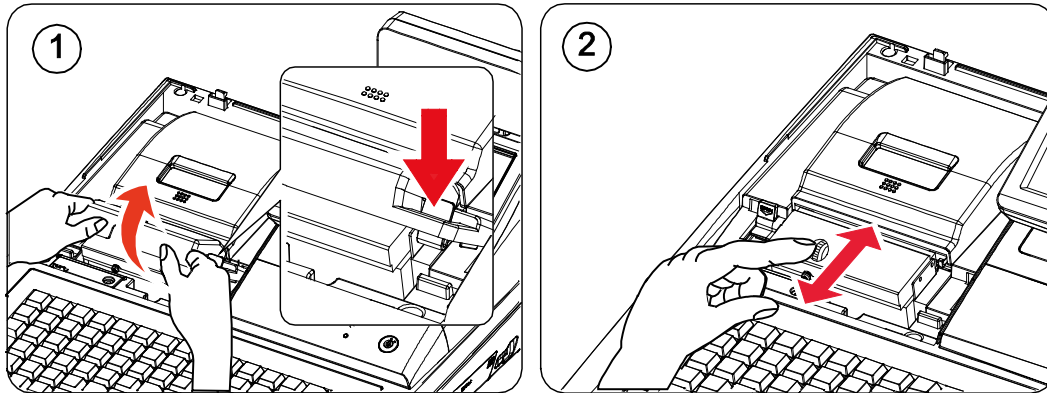

Figure 5-3 Removing Paper Jam
1. Lift it off COVER. (Figure 5-3-①)
2. Turn the KNOB(Orange color) forward or backward until the buzzer beep stops as illustrated Figure5-3-②.